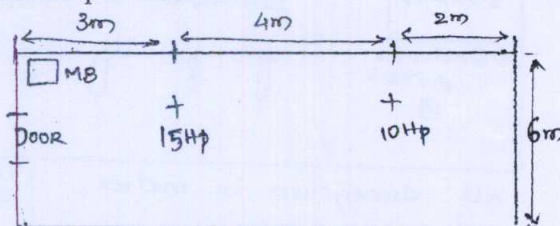

Fig. Q5(b)
- b. Two ac, 3phase, 415V, 50Hz squirrel cage motors are to be installed in a workshop. The rated outputs of the motors and their locations are as shown in the Fig. Q5(b)  $\gamma$  -  $\Delta$  starters supplied with each motor are to be installed on the wall. The supply company's meter will be located at the position marked. The wiring of the machine is to be carried out according to IE rules. Make a neat sketch of the wiring scheme with the help of a single line diagram indicating on the wiring diagram the number and size of cables used. Prepare a list of material required for the wiring including the necessary earthings. Assuming efficiency 85% and  $pf = 0.8$ . (14 Marks)